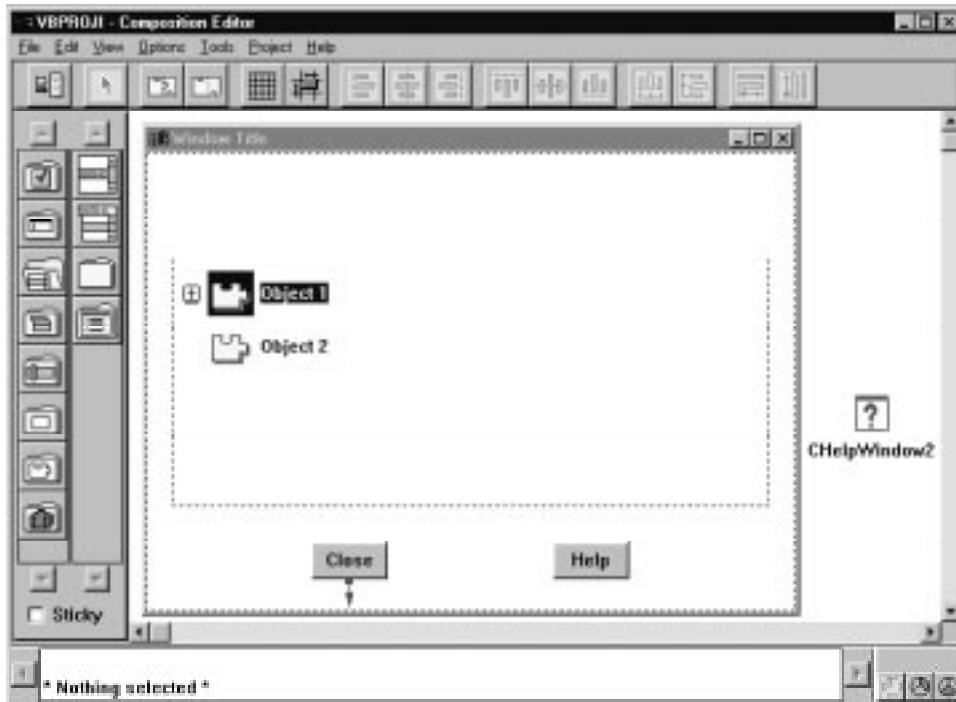

Figure 74. Composition Editor window with a container part
3. Resize the container part to match Figure 74 on page 188.